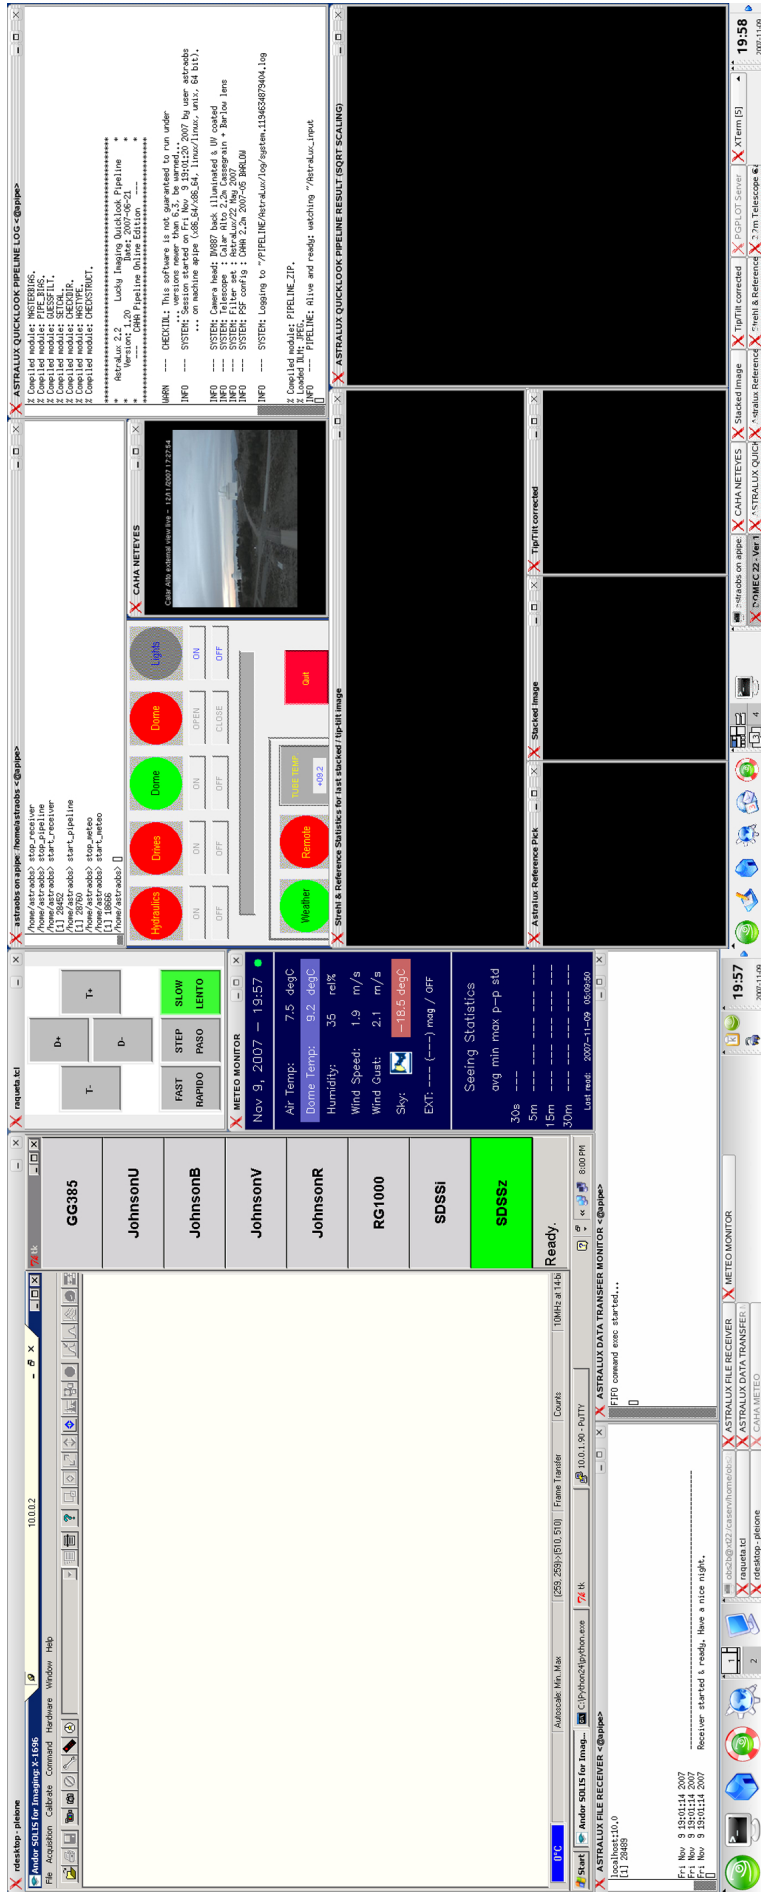

Figure 8. AstraLux screen layout on xt22 in the SOR
- If you did all as told, your screens should now look approximately like in Fig. 8.